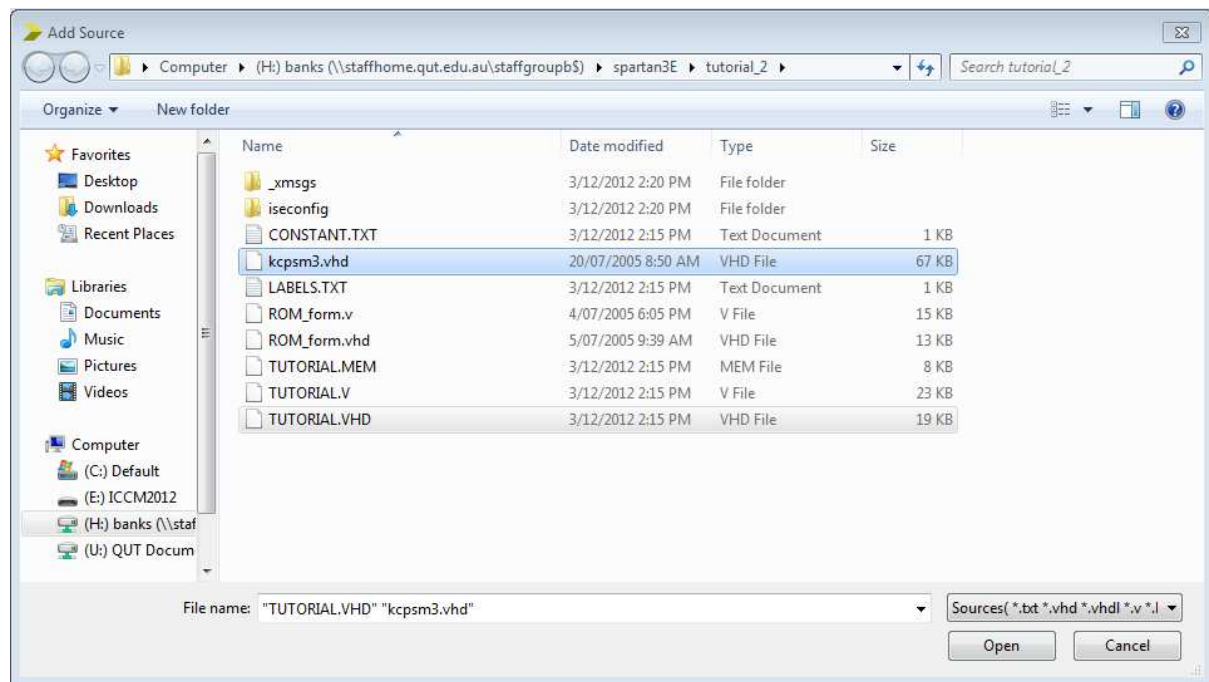

Figure 5.6: Add Source file selection window.
2. Select **TUTORIAL.VHD** and **kcpsm3.vhd** as shown in Figure 5.6. Both files can be selected at once by clicking on the first filename, holding down the CTRL key and clicking the second filename. Alternatively, one file can be selected and steps 1-3 repeated for the second file.